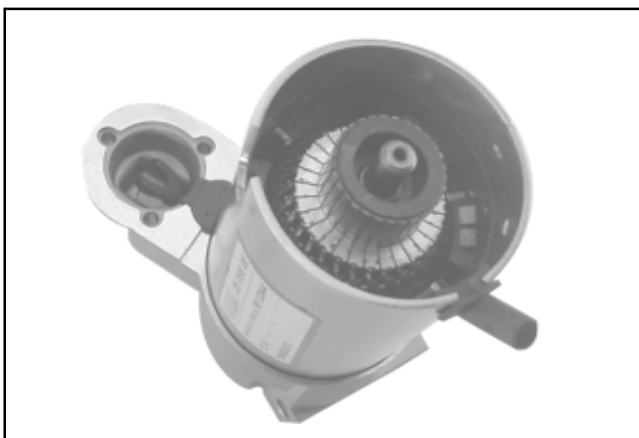

Figure 8-61. Installing Frame and Drain Tube.
8. Install the frame, with the small notch forward, onto the armature and drive end cap. Align the notch with the corresponding section in the rubber grommet. Install the drain tube in the rear cutout, if it was removed previously. See Figure 8-61.